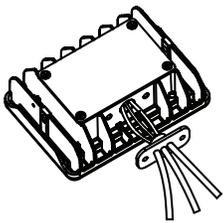

Figure 1.1
1. Pass the three wires through the rubber mat; ( figure 1.1)